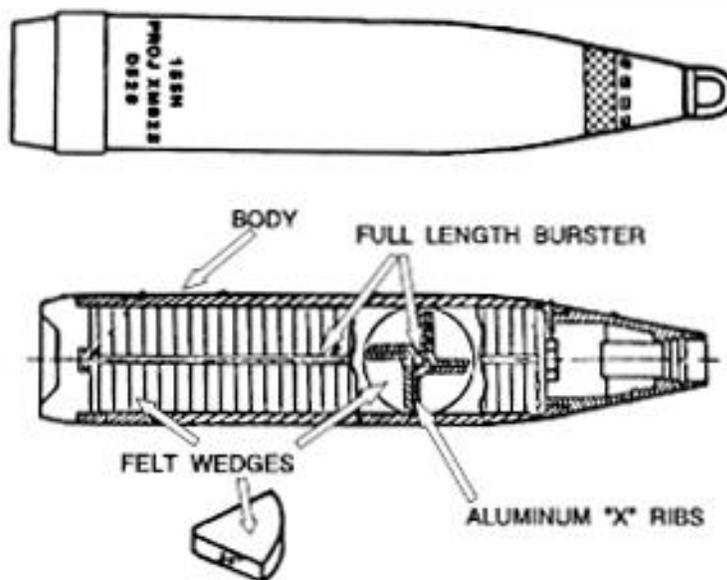

Figure 2-23. 155-mm Smoke, WP M825/825A1
o. **Projectile, 1557mm, Smoke, WP, NS25.** The M825 is used to produce a ground screening smoke of 5-10 minutes duration. It consists of a modified M483AI ogive and expulsion charge in a modified M483A1 all steel body and a threaded steel ring base. It has a payload of 116 white-phosphorus-impregnated felt wedges contained in a hermetically sealed steel canister. A 1/4 inch diameter burster charge (approximately 21 grams of Composition A-5) runs the entire length of the canister (Figure 2-23).